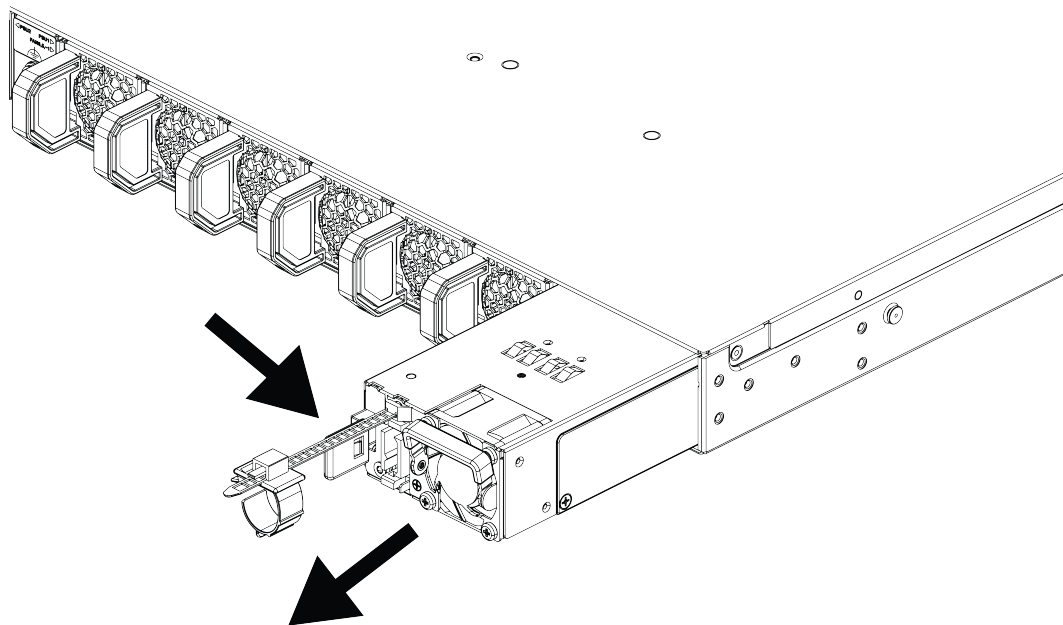

Figure 32: Remove an 800 W DC Power Supply
3. Push the latching tab toward the power supply handle and pull outward on the handle to disengage the power supply internal connectors, as shown in Figure 32.
4. Carefully slide the power supply the rest of the way out of the switch, as shown in Figure 32.